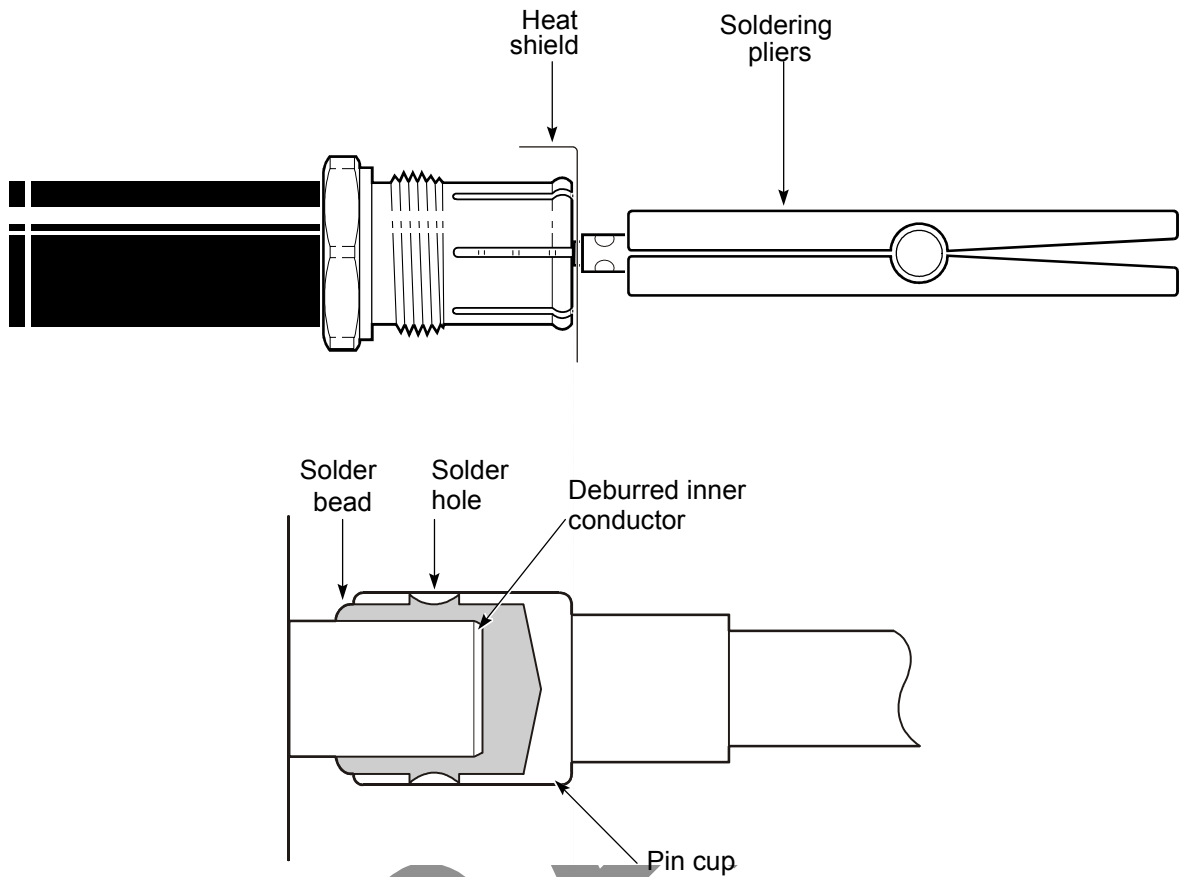

Figure 65 – Soldering the pin
2. Use the heat shield, soldering pliers and soldering iron to solder the pin to the inner conductor, as shown in Figure 65. Apply extra solder to the holes in the pin cup if required.